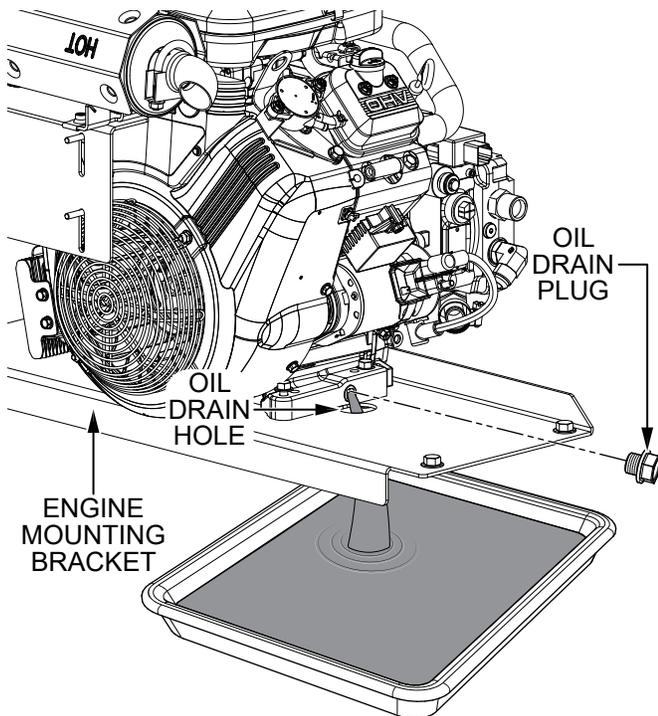

Figure 34. Engine Oil Replacement
- Remove the oil drain plug (Figure 34) and allow the oil to drain into a suitable container through the drain hole in the engine mounting bracket.